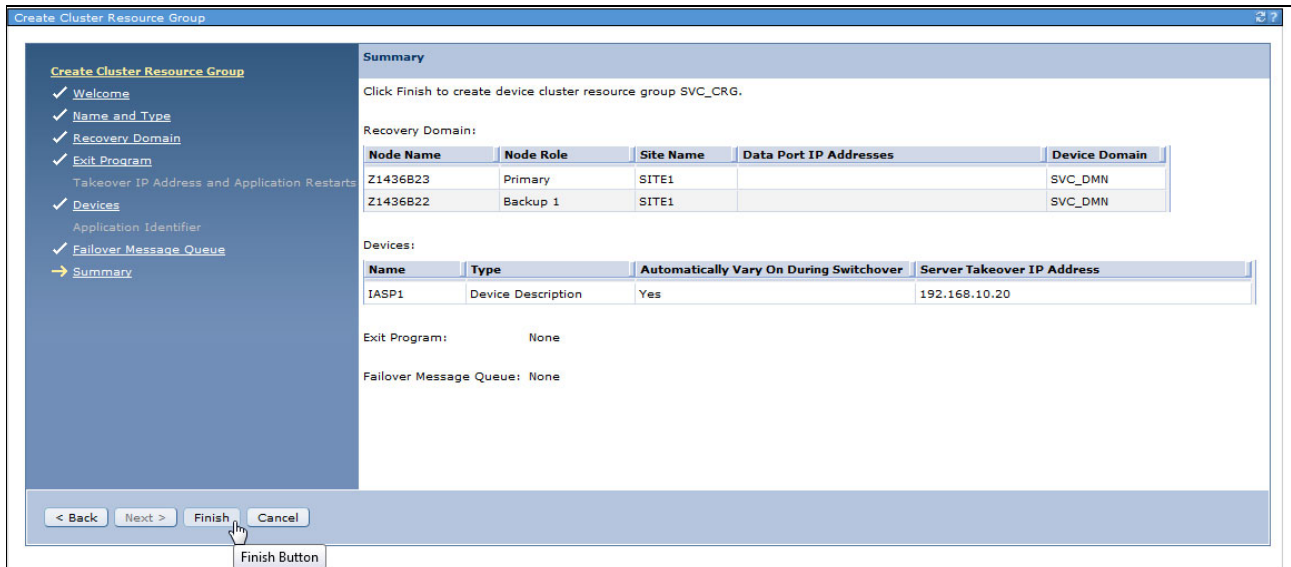

Figure 4-31 Create Cluster Resource Group, summary
28. The Create Cluster Resource Group Summary panel that is shown in Figure 4-31 displays the configuration options that were entered. Click **Finish** to create the cluster resource group.